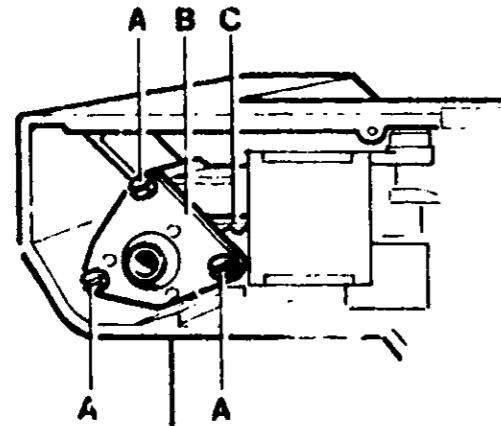

FIGURE 54
- Working on left side of machine (Figure 54) remove screws (A) and remove upper shaft support (B). Slip timing belt (C) off its upper shaft toothed pulley.